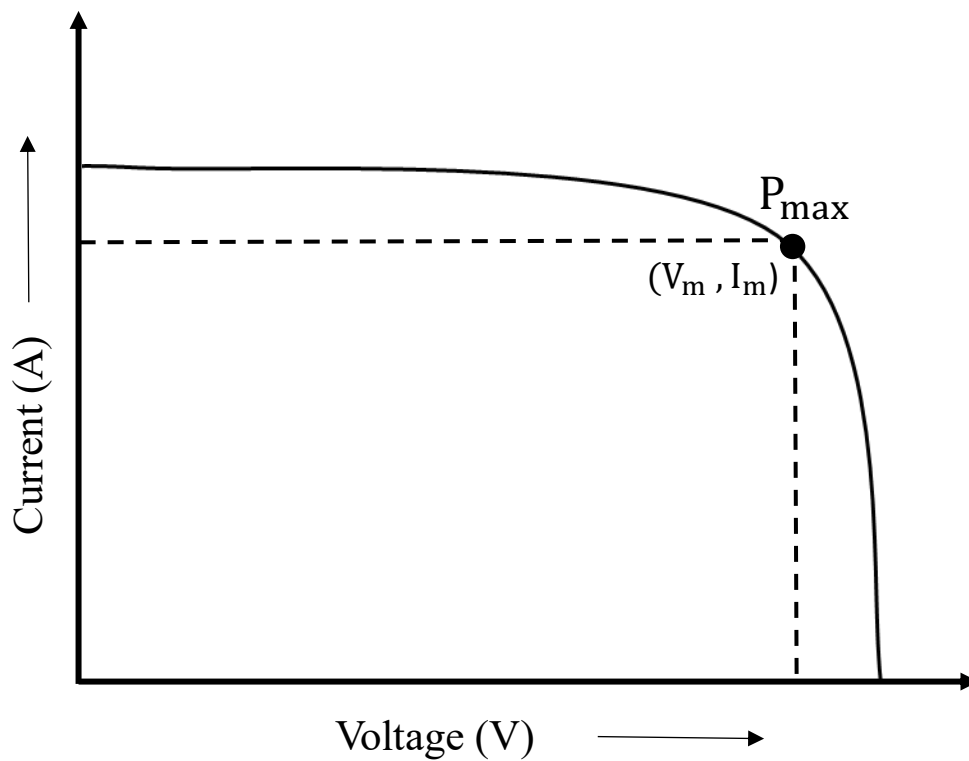

Figure 3.2. Model Graph for I-V characteristics
- The graph between Voltage and current is drawn for measured distance (d) The maximum power output at the turning points on the curves are determined. (Figure 3.2)